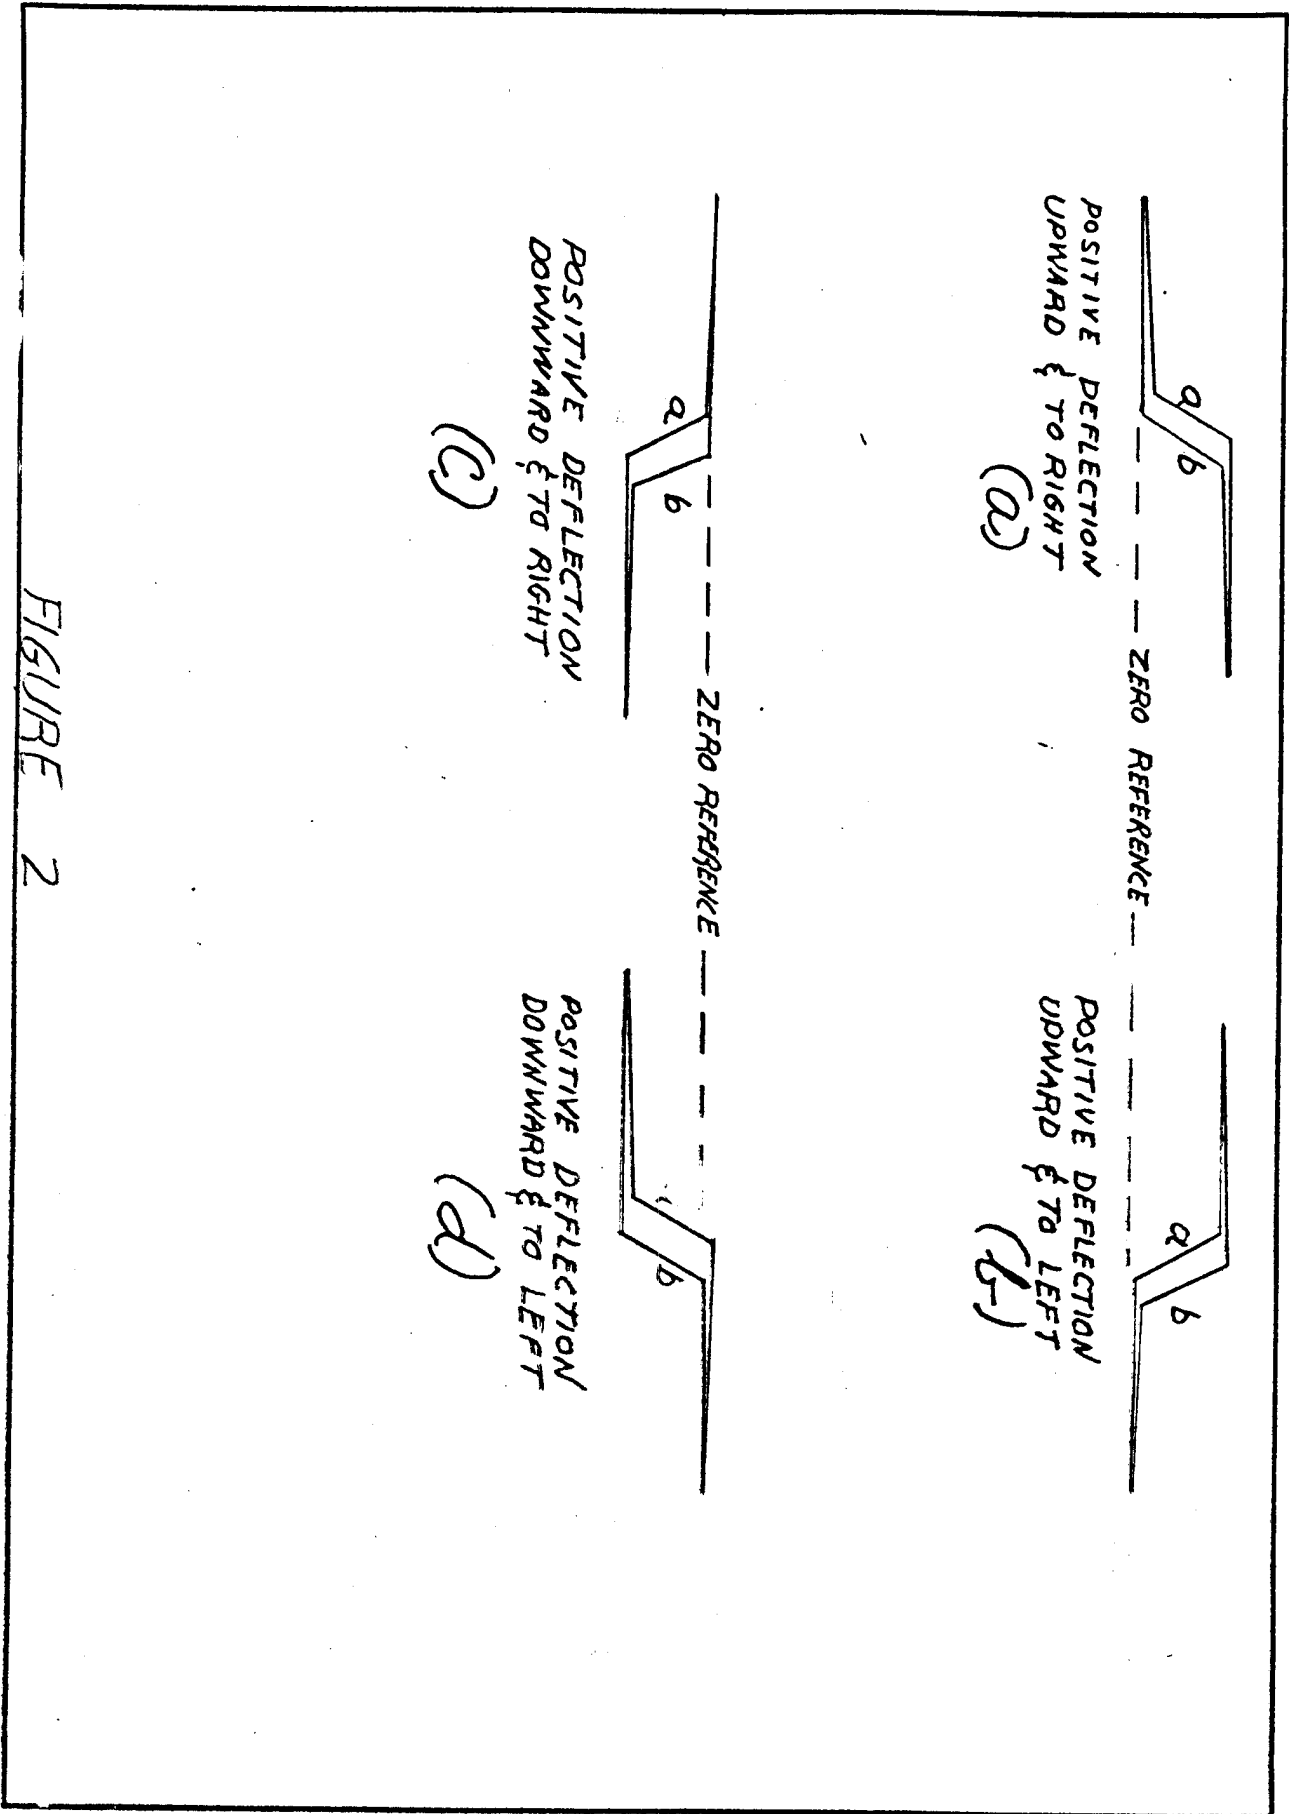

FIGURE 2
1. Before attempting to phase the RF Switch, determine by means of a dry cell battery the direction that the electron beam in the CRT of the oscilloscope is deflected when a positive voltage is applied to the horizontal sweep input, also, the vertical input. Figure 2 gives the various configurations obtainable on the oscilloscope, depending on the positive direction of deflection.